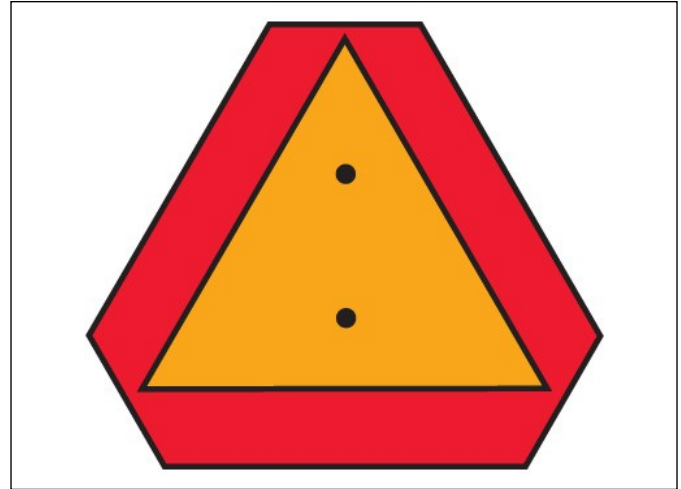

Figure 3-17: SMV Sign
11. Transport during daylight hours when ever possible. Always use flashing warning lights, except where such use is prohibited by law. Make sure lights, reflectors and SMV emblem are clearly visible and operating. Remove any obstructions such as dirt, mud, stalks or residue that restricts view before transporting. See Figure 3-17.